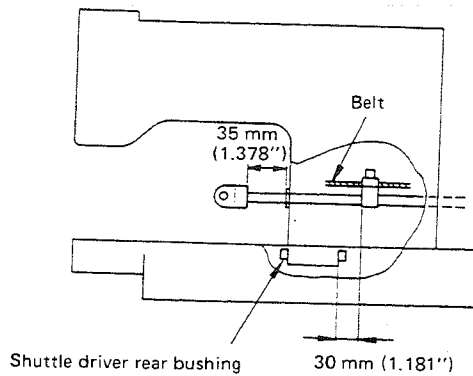

Fig. 5-48-3
- When fixing the Y-motor base, be sure to align positioning pins ④ with the positioning holes.
- Before passing the X guide shaft and X guide shaft support through feed bracket bearing and Y travel shaft bearing ①, apply grease to the inside of the bearings to prevent the steel ball from slipping out from the bearings.
- When fixing the Y belt mounting base to the X guide shaft support, be sure to provide a 30 mm (1.181") clearance between shuttle driver shaft rear bushing edge and Y belt base edge, and a 35 mm (1.378") clearance between X guide shaft support edge and Y travel shaft front bushing edge. (Fig. 5-48-3)